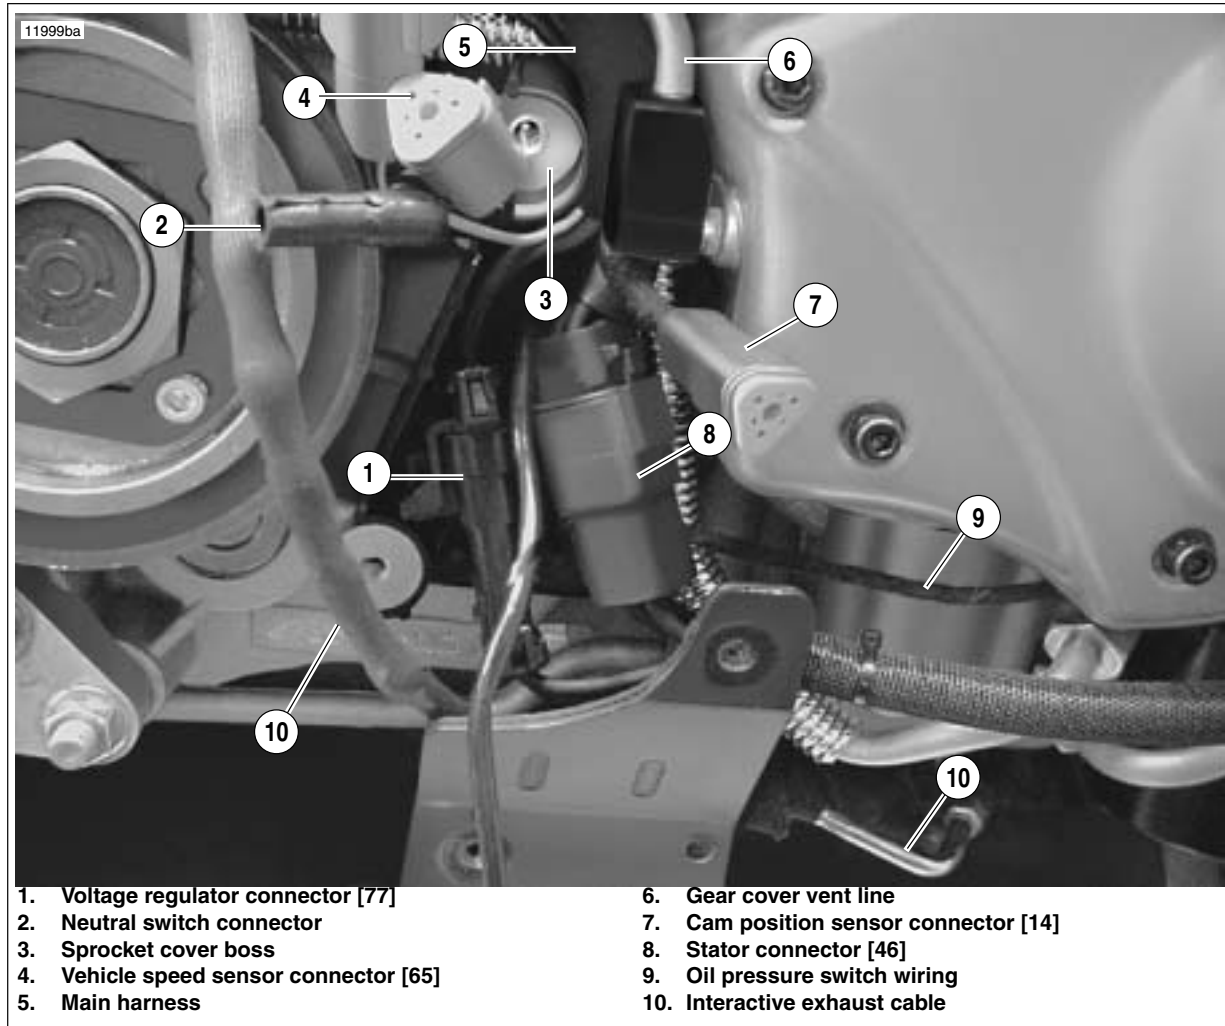

Figure 7-87. Sprocket Cover Wiring and Connections
2. See Figure 7-87. Disconnect appropriate connector(s).
2. See Figure 7-87. Route stator wiring, main harness, vehicle speed sensor wiring, and actuator cable (XB12 models only) behind the vent line fitting (6) and to the right side of the sprocket cover boss (3).
3. See Figure 7-87. Route oil pressure switch wiring (9) from main harness (5), to oil pressure switch located on front of engine and connect to the oil pressure switch.
5. See Figure 7-87. Connect the (4 pin) stator connector (8) and position as shown.
6. Connect the (2-pin) voltage regulator (1).
7. See Figure 7-87. Position the voltage regulator connector (1) as it is shown, with the connector latch to the back and above the bottom sprocket cover boss.